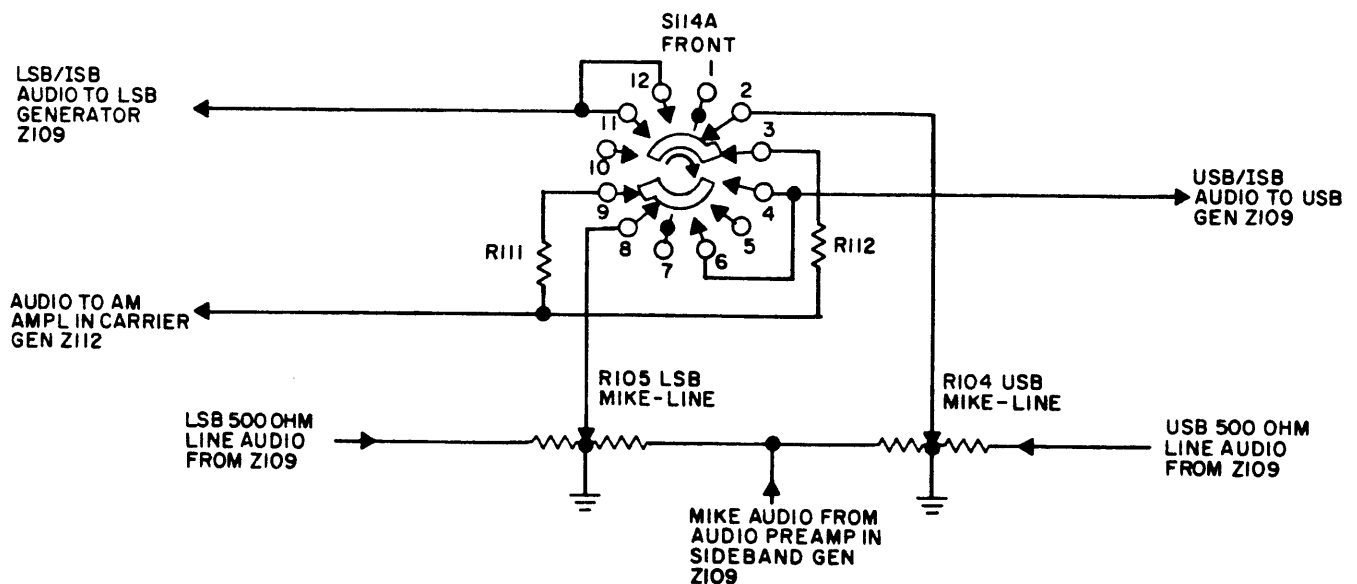

Figure 4-3. Audio Mode Switching, Simplified Schematic Diagram
g. MODE SWITCHING. (See figures 4-3, 4-4 and 7-1.) Mode switching for the LFE-1 is accomplished by MODE switch S114, which selects the desired mode of operation (AM, USB, LSB, ISB, CW, FSK and FAX) by routing audio, subcarrier and certain enables to the proper circuits of the Exciter. Mode switching can be divided into areas of audio, present in the AM, USB, LSB and ISB modes, and the remaining modes of CW, FSK and FAX operation.
(1) In the audio modes (figure 4-3), microphone or 500-ohm line audio inputs from the upper and/or lower sideband generators are developed across half of the respective MIKE/LINE control and sent to MODE switch S114A (front). Consider upper sideband (USB) audio. Microphone audio from the audio preamplifier circuit is developed across